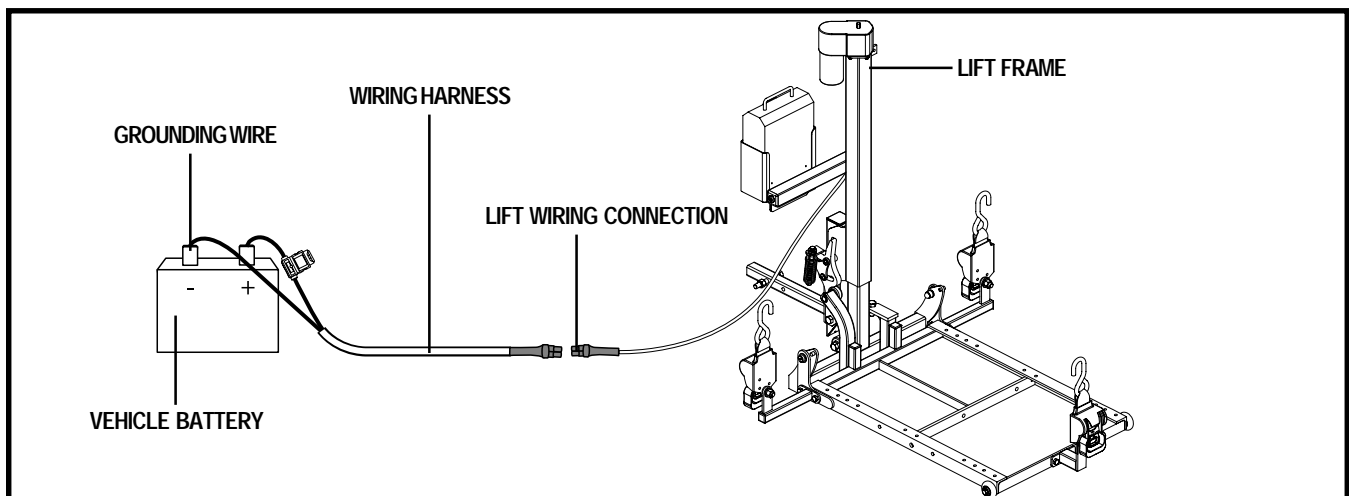

Figure 7. Wiring Harness Installation
1. Route the lift system wiring harness (starting at the lift) through the interior of the vehicle until you reach the vehicle battery. See figure 7. You will typically find pass-through points at the rear lighting assemblies, which will enable you to route the cable through the trunk and under the back seat.